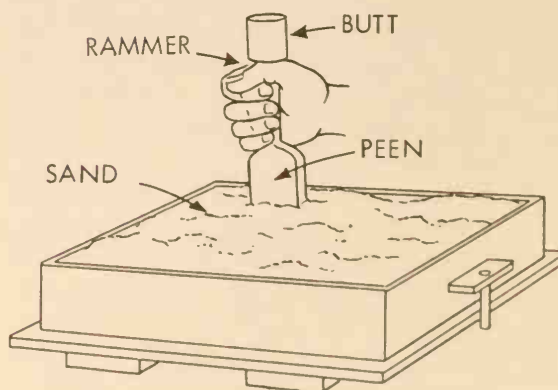

Fig. 8-6. Ramming the sand down in the drag and around the pattern.
5. Press the sand down in the drag and around the pattern with the peen end (small end) of the rammer, Fig. 8-6. The large end of the rammer is the